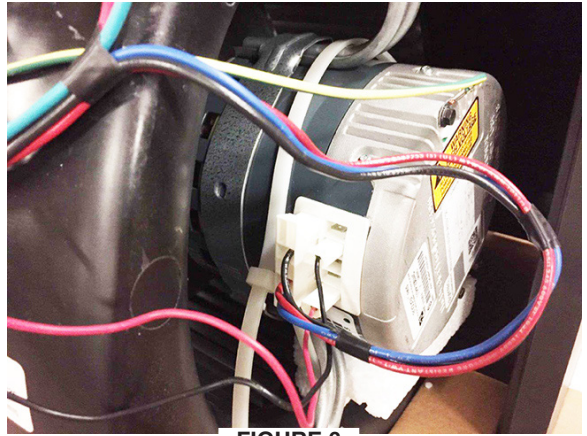

FIGURE 6
5. Installing Ferrite Beads (Item 6) on a CTM motor. Place one ferrite bead on motor power wires. There should be at least one loop made in the power wires, so the wires pass through the ferrite bead twice. See Figures 6 and 7.